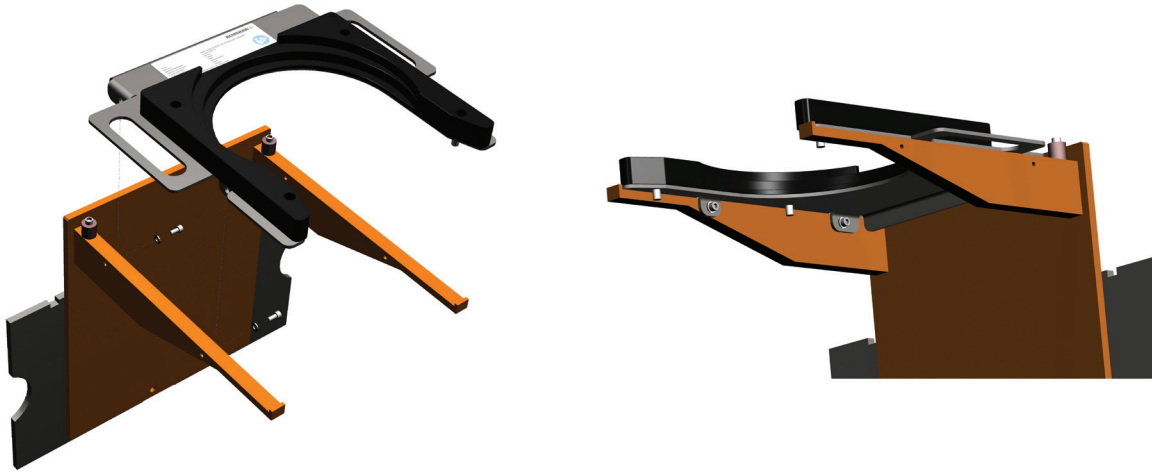

Figure 10 Safe change filter lifting bracket securing lugs and fasteners
1. Place the safe change filter lifting bracket on to the silo lift standard fork set (Figure 10). The open end of the lifting bracket should be at the front. The filter support should be uppermost and the two lugs on the lifting bracket should be on the inside of the forks.
3. Supplied with the lifting bracket are two M6 × 12 mm screws and plain washers. Fit the screws and washers through the holes in the lugs, into the threaded holes in the forks and tighten until secure (Figure 10).